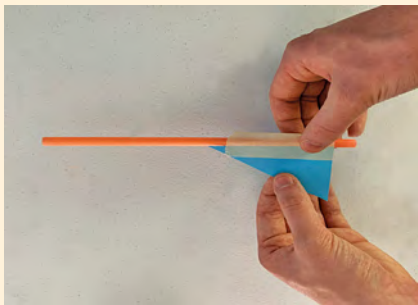

Figure 1. Tape fin to straw leaving 1.5 cm of the bottom of the straw exposed.
4. Place a piece of masking tape lengthwise over the fin such that half of the tape hangs over the edge. Place the fin on the bottom edge of the straw with about 1.5 cm of the straw exposed at the bottom (Figure 1). Wrap the remaining tape around the straw. Take another piece of tape and wrap on the other side of the fin.